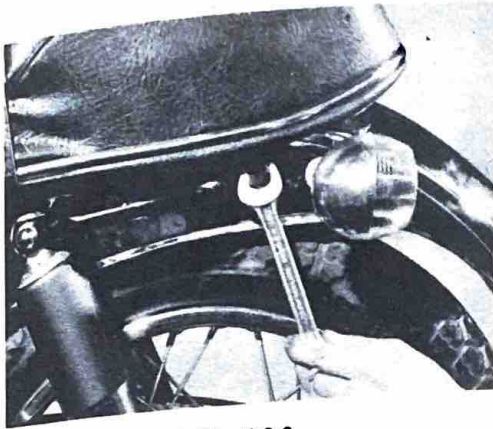

Fig. 5-8-2
- 3) Remove the seat. (Figs. 5-8-2 and 3)